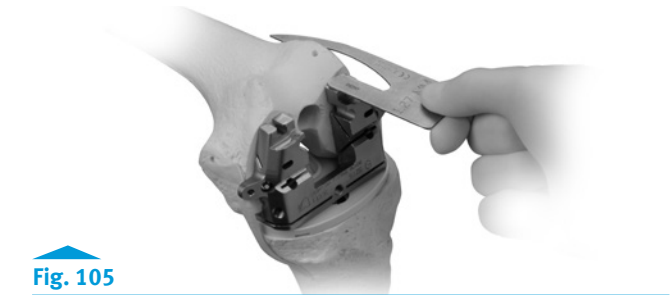

Fig. 105
- Place the Resection Guide on the anterior surface of the 4-in-1 Femoral Cutting Block, and check the medial and lateral sides to be sure the cut will not notch the anterior cortex (Fig. 105).